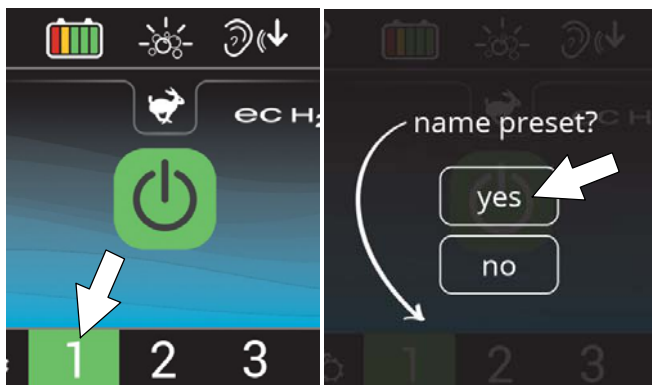

FIG. 71
2. Then press and hold a zone button until a screen prompts you to name the new preset zone. Select “yes” to name the preset zone (Figure 71).